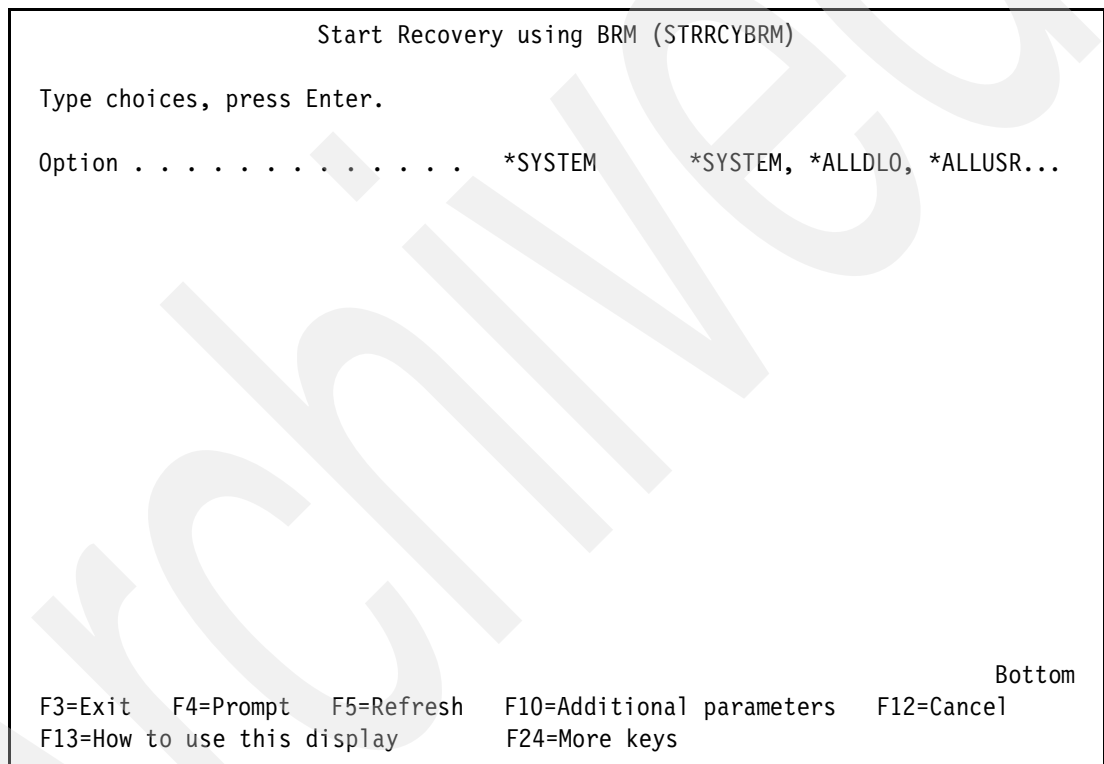

Figure 15-9 BRMS - Start Recovery using BRM display
2. On the Start Recovery using BRM display (Figure 15-9), press Enter.